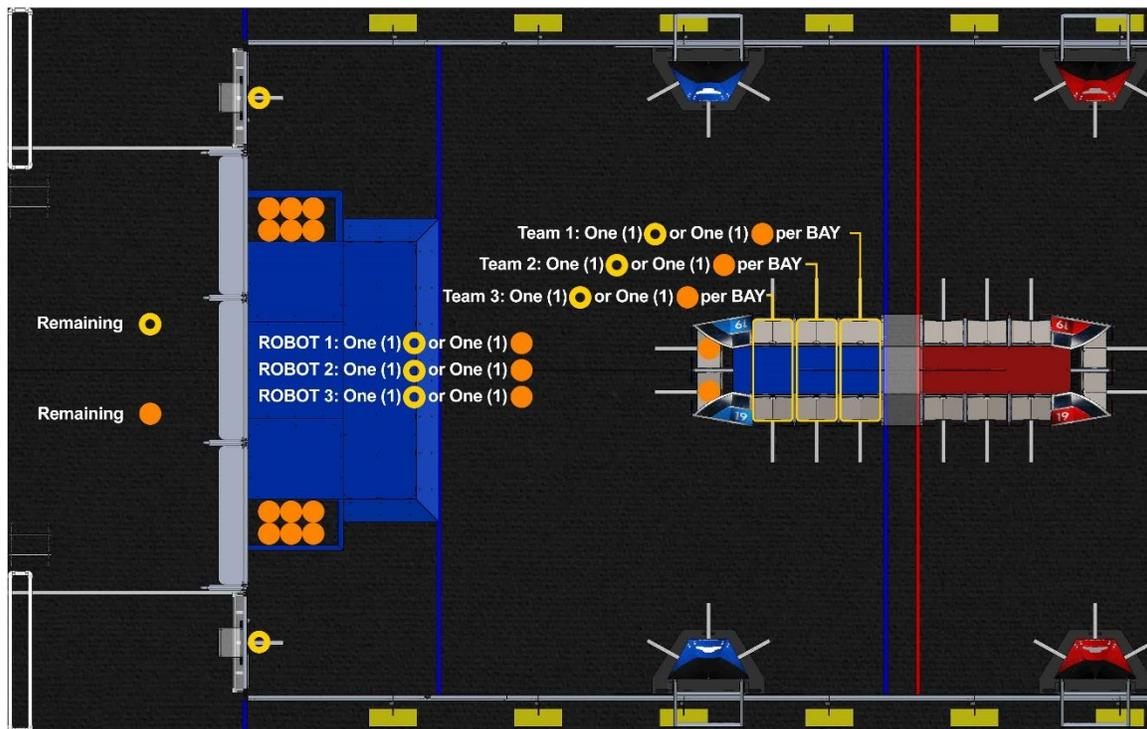

Figure 5-2 GAME PIECE staging (~½-FIELD shown)
- E. One (1) CARGO is staged in each of the two (2) ALLIANCE WALL-facing CARGO SHIP BAYS
- F. Each team must prepopulate one (1) CARGO or one (1) Null HATCH PANEL (a HATCH PANEL marked with white tape and hardware installed to secure Null HATCH PANEL to the CARGO SHIP, see drawing GE-19244) in each of their two (2) designated CARGO SHIP BAYS (designated per the MATCH schedule and per Figure 5-2). Nonstaged Null HATCH PANELS and CARGO are excluded from MATCH play. If no team decision, the BAY will be populated with one (1) CARGO. If order placement of GAME PIECES matters to either or both ALLIANCES, the ALLIANCE must notify the Head REFEREE during setup for that MATCH. Upon notification, the Head REFEREE will require ALLIANCES alternate placement of all GAME PIECES. In a Qualification MATCH, GAME PIECES will be placed in the following order: Blue Station 1, Red Station 1, Blue Station 2, Red Station 2, Blue Station 3, Red Station 3. In a PLAYOFF MATCH, the same pattern is applied, but instead of Red ALLIANCE placing last, the higher seeded ALLIANCE (regardless of color) places last.